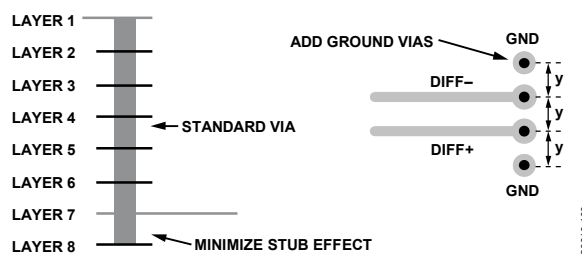

Figure 80. Minimizing Stub Effect and Adding Ground Vias for Differential Stripline Traces
- If using standard vias, use the maximum via length to minimize the stub size. For example, on an 8-layer board, use Layer 7 for the stripline pair (see Figure 80).
- For each via pair, place a pair of ground vias adjacent to them to minimize the impedance discontinuity (see Figure 80).